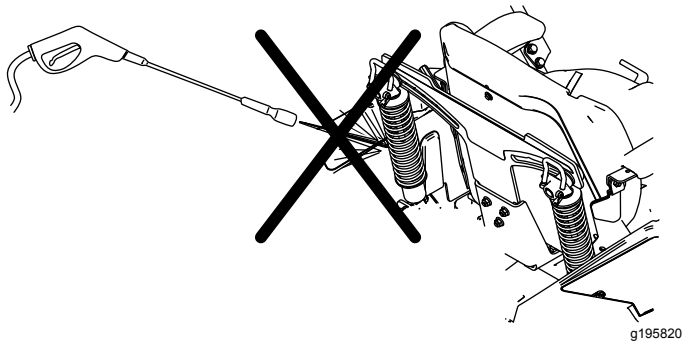

Figure 77
**Note:** Do not clean the shock assemblies with pressurized water (Figure 77).